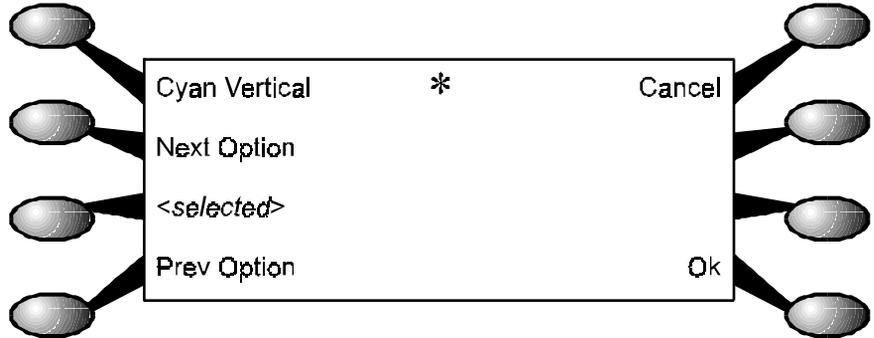

Figure 3-21. Cyan Vertical Options Menu.
- When the plot is complete, select “Cyan Vertical” at the Color Calib Menu. This brings up the options menu for the cyan vertical adjustment as shown in Figure 3-21.
5. When the plot is complete, select “Deadband” at the Calibration Menu. This brings up the options menu for the fast deadband adjustment. This menu is similar to the menu depicted in Figure 3-21.
9. When the plot is complete, select “Slow Deadband” at the Service Menu. This brings up the options menu for the slow deadband adjustment. This menu is similar to the menu depicted in Figure 3-21.
6. Select “Paper Axis” at the Calibration Menu. This brings up the options menu for the paper axis adjustment. This menu is similar to the menu depicted in Figure 3-21.